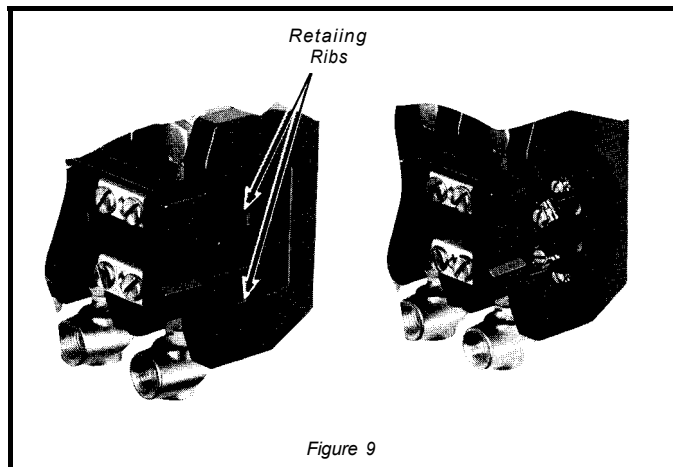

Figure 9
3. Place the section containing the stationary contacts above the retaining ribs on the overload relay and the section containing the movable contacts below the same retaining ribs. (Refer to Figure 9.)